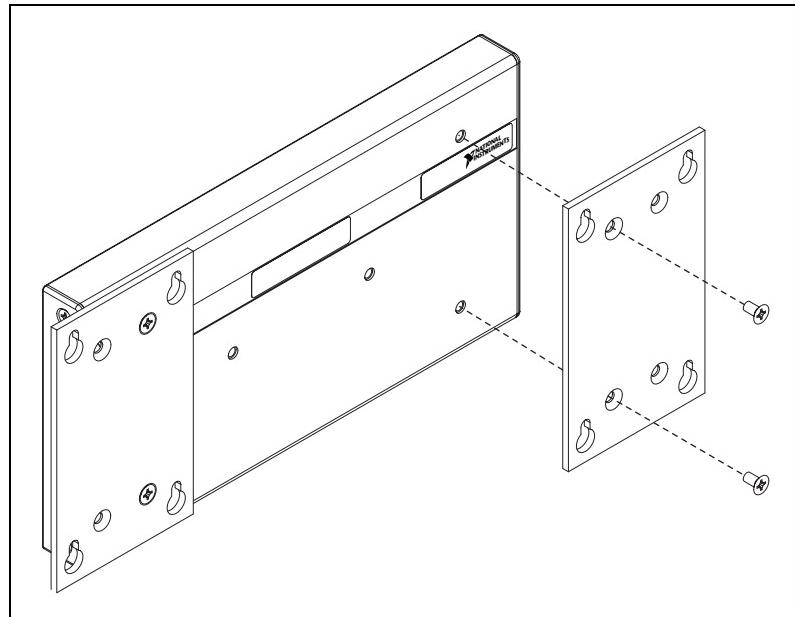

Figure 2-4. Fastening the Panel-Mount Plates to the cFP-BP-4 Backplane
1. Fasten the two plates of the panel-mount kit to the back of the cFP-BP-x using a number 2 Phillips screwdriver and the 8-32 × 5/16 in. countersink screws shipped with the kit. These screws have a nylon coating to prevent them from loosening. Refer to Figures 2-4 and 2-5.